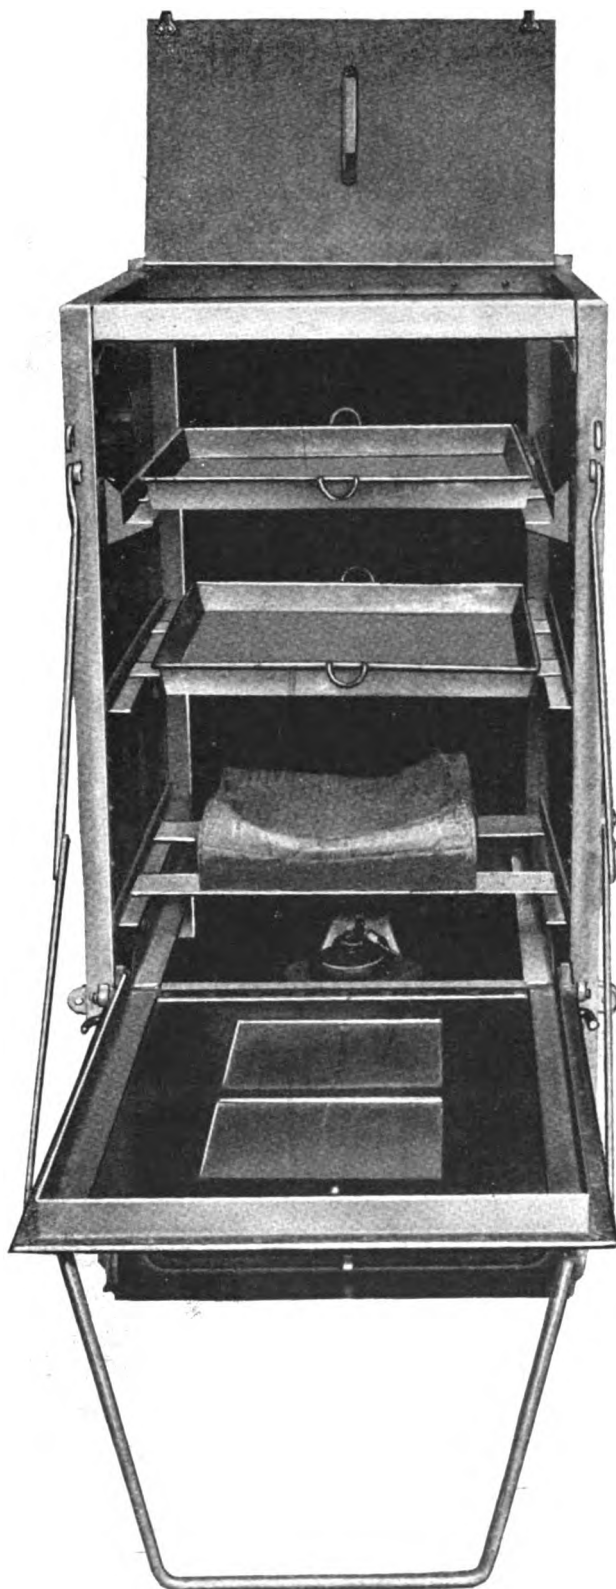

Figure 38. Simple expedient for adapting range, field, M1937, for pastry baking.
(4) Besides bread, such products as biscuits, rolls, cobblers, and pies can be baked successfully with the range when it is adapted in this manner.
b. METHOD NO. 2 (PASTRY) (see figs. 38 and 39). A simpler method of increasing the baking capacity of the range is to construct only pan rests instead of solid shelves. When adapted in this manner the range will bake pastry very well but will not bake bread satisfactorily.